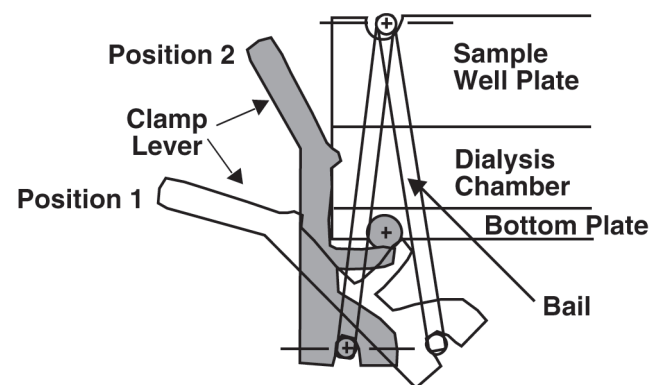

Figure 1 - Spectra/Por® MicroDialyzer Snap Clamp
2. Release the snap clamps. Pull the clamp lever away from the MicroDialyzer body to position 1 (see Figure 1). Then disengage the clamp from the MicroDialyzer. Remove one clamp at a time.
6. To snap the clamps back into position, arrange the MicroDialyzer and one of the clamps as shown in Figure 1 position 1. To do this, slip the MicroDialyzer through the bail and place the bail into the groove on the sample well plate. Slide the notch on the clamp lever into the groove on the underside of the bottom plate.